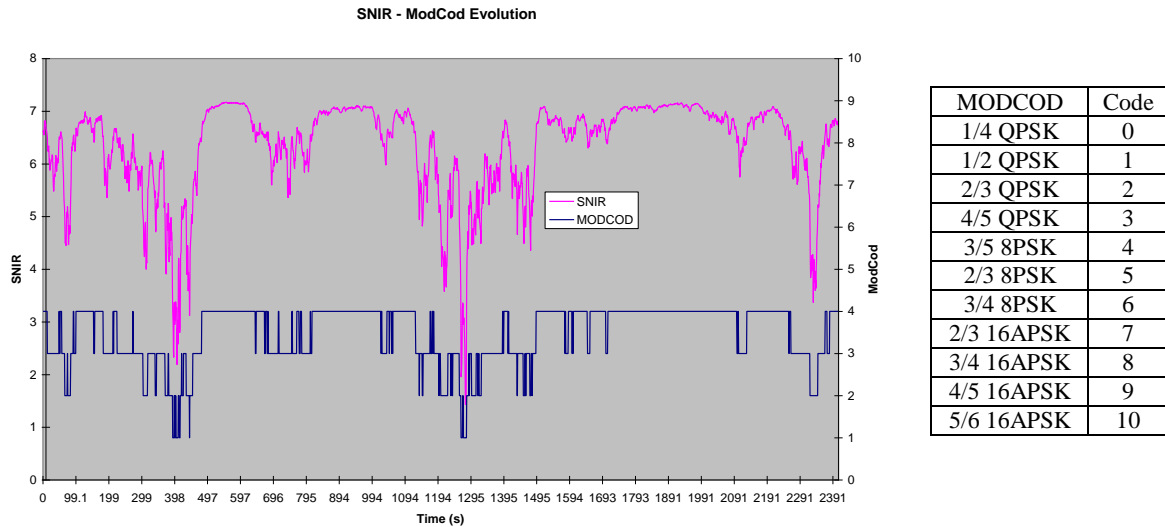

Fig. 4
- The Modulator Macro has been tested by ST customer as ACM Modulator in a real 2 way link with Generic Stream Encapsulation Traffic Generator and a DVB-RCS return link. Assuming a given SNIR profile (caused by atmospheric fading during ACM Test) the DVB-S2 Modulator Macro controlled by the SNIR estimation returned on the DVB-RCS channel showed the frame by frame ACM switching capability reported in Fig. 4 while the companion Space Technology Demodulator Macro was maintaining the QeF performances all test session long.